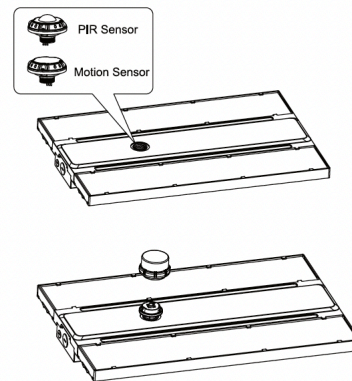

Figure 7
Step 2. Twist-lock the DC sensor to the base to make it work properly, use a remote control to adjust the working mode as per demand. (Figure 7)